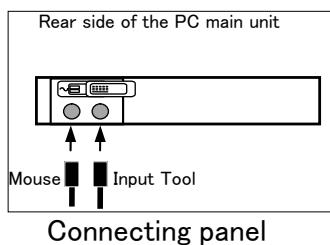

Fig. 1-2
It shows Fig.1-1, Fig.1-2, Fig.1-3 in 1.1.1.
at (A) and (B) (Fig. 1-2).